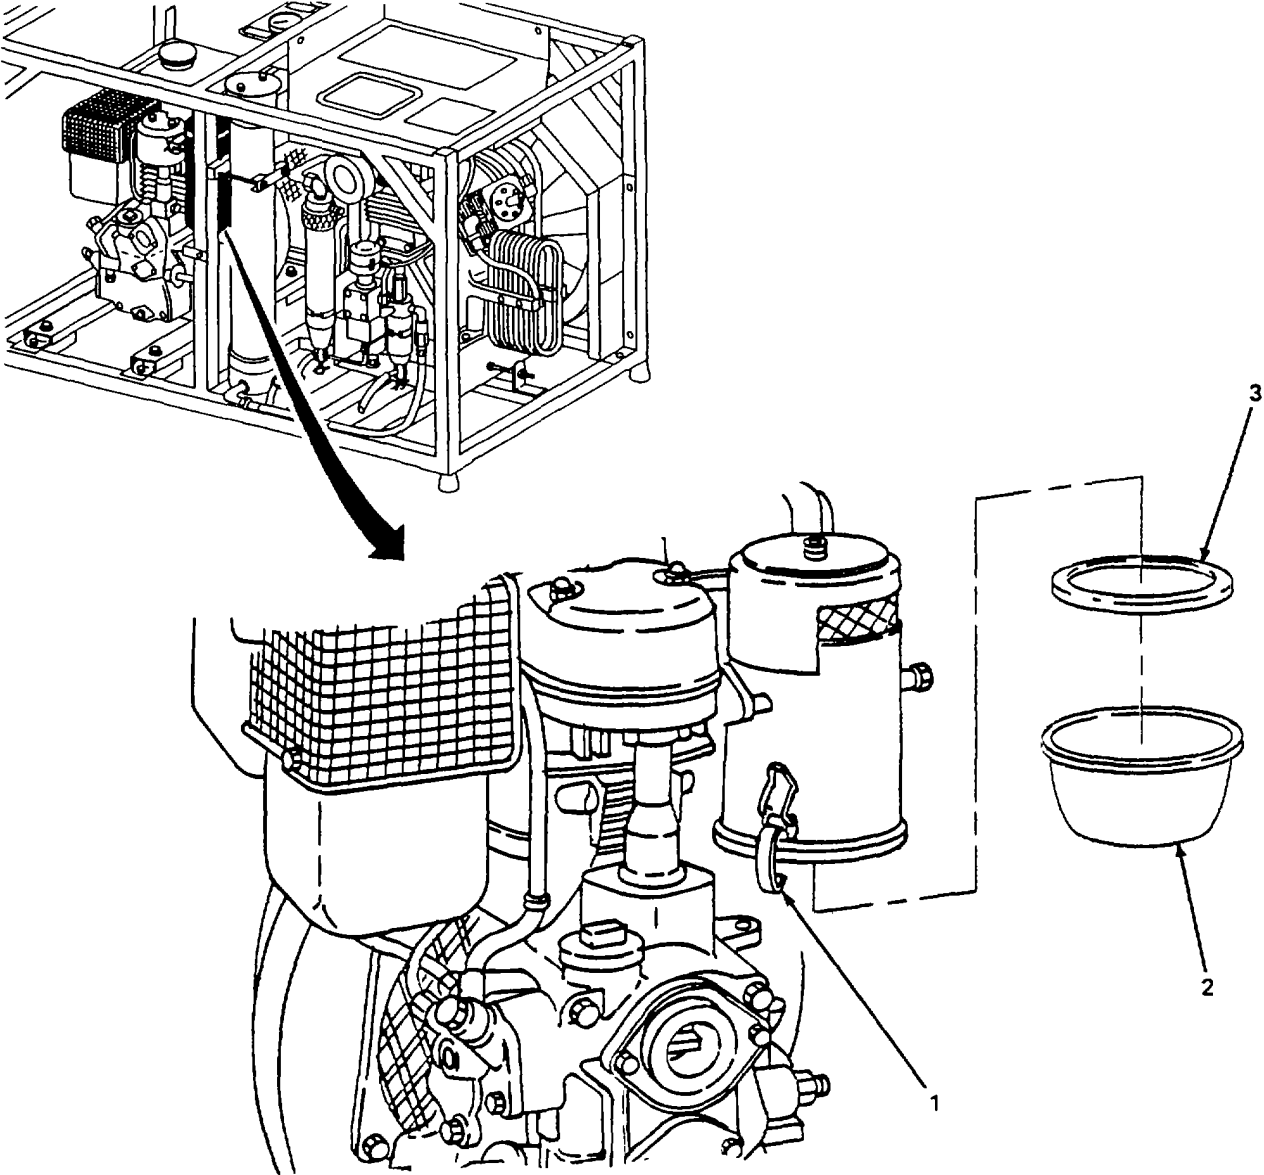

Figure 4-23. Air Cleaner, Service.
**a. Service.** (figure 4-23)
- (1) Unsnap two clips (1) and remove cap (2) and gasket (3). Discard gasket (3).
- (2) Pour out oil from cup (2) into suitable container.
- (3) Clean cup (2) with dry cleaning solvent and dry thoroughly.
- (4) Fill cup (2), with clean engine oil, to OIL line.
- (5) Inspect gasket (3) and replace if cracked.
- (6) Install new gasket (3) and cup (2) and secure with two clips (1).